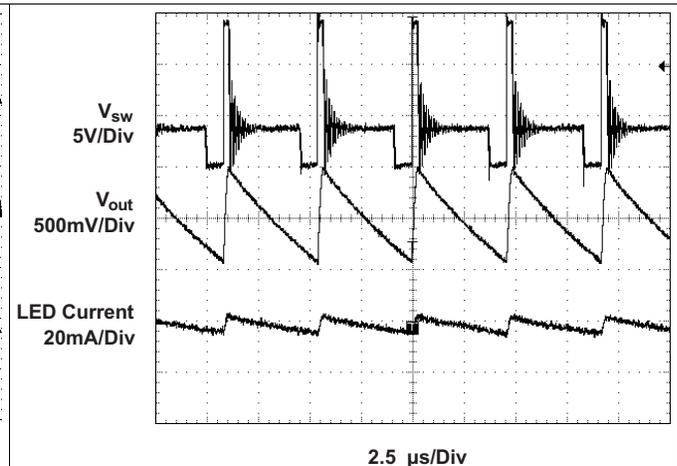
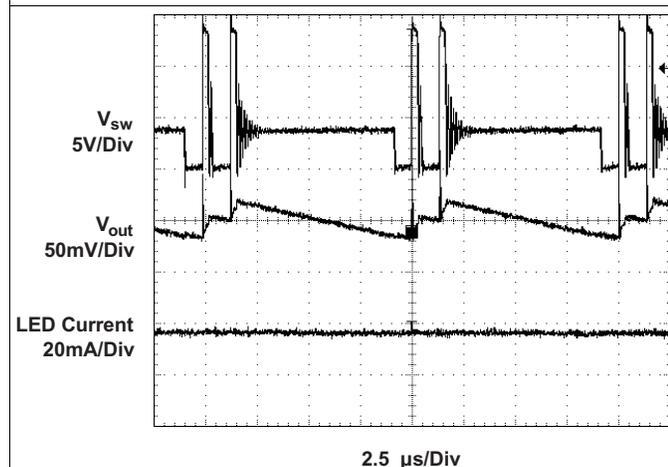

Figure 24. PFM Operation
Figure 25. Bust Mode Operation
If the converter can support the desired LED current, the next step is to calculate the converter switching frequency at the operation point, which must be  $\leq 1 \text{ MHz}$ . Also the converter switching frequency should be much higher than the applied PWM frequency at the CTRL pin to avoid non-linear brightness control. Assuming the converter shows no double pulses or pulse bursts (Figure 24, Figure 25) on the switch node (SW) the switching frequency at the operation point can be calculated as:
Assuming the converter does not show double pulses or pulse bursts on the switch node (SW), the output voltage ripple is calculated as (see Figure 24, Figure 25):